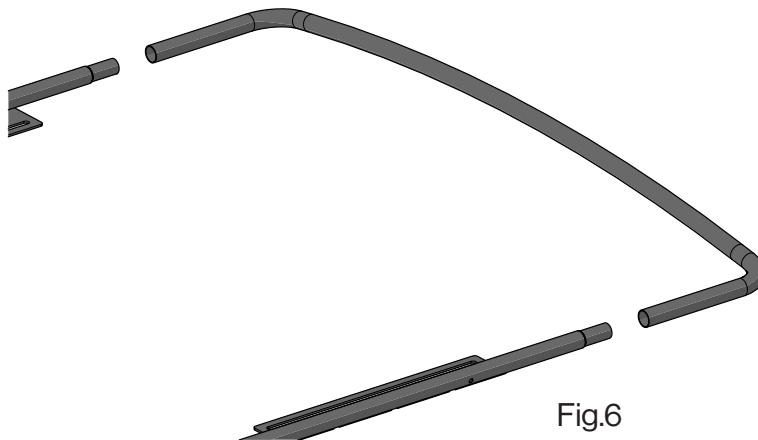

Fig.6
Connect the rear U-shaped rear tube (G) as shown in Fig. 6.